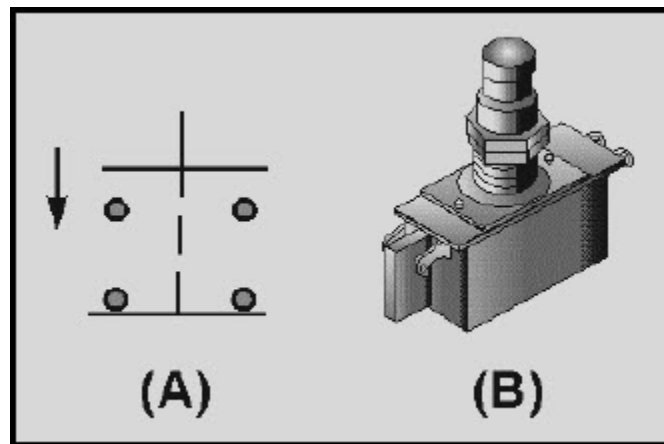

Figure 3-5 Double-break pushbutton switch
Switches can also be classified as SINGLE-BREAK or DOUBLE-BREAK switches. This refers to the number of places in which the switch opens or breaks the circuit. All of the switches shown so far have been single-break switches. A double-break switch is shown in figure 3-5. The schematic symbol shown in figure 3-5(A) shows that this switch breaks the circuit in two places (at both terminals). The upper part of the schematic symbol indicates that these contacts are in the open position and the circuit will close when the switch is acted upon (manually or automatically). The lower symbol shows closed contacts. These contacts will open the circuit when the switch is acted upon.
Figure 3-5(B) is a picture of the switch. This switch is called a pushbutton switch because it has a button that must be pushed to change the switch contact connections. Notice that the switch has four terminals. The schematic symbol in figure 3-5(A) shows that when one set of contacts is open, the other set of contacts is closed. This switch is a double-pole, single-throw, double-break switch.